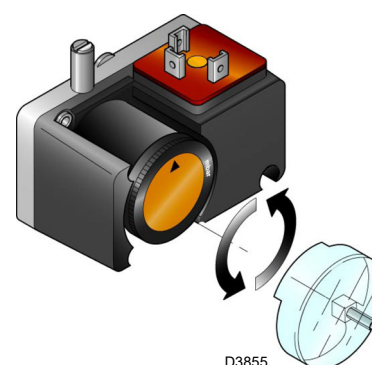

Fig. 34
- Adjust the pressure switch for the valve leak detection control device (PVP Kit)(Fig. 34 at page 36), if present, according to the instructions supplied with the Kit itself.
Adjust the pressure switch for the valve leak detection control device (PVP Kit) (Fig. 34), if present, according to the instructions supplied with the Kit itself.